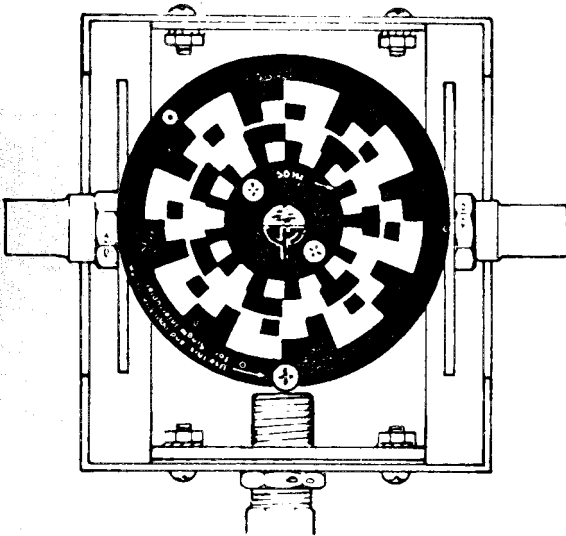

Figure 3-6. Logo at 6:00 O'clock
- (1) Remove interrupter screws from the Tester disc leaving only the one to which the stem of the h points (fig. 3-6).
- (2) Set Strobex MODE switch[ to position E and RPM dial to 090.
- (3) Run Tester at 1800 RPM and illuminate Tester rotor with the Strobex.
- (4) Adjust Strobex RPM dial until the stem of the h appears stopped at 6:00 o'clock.
- (5) Set Strobex RPM dial to 180 ( actual rotor rate) and adjust Strobex RPM dial until the stem of the h appears stopped at 12:00 and 6:00 o'clock.
- (6) Reduce the Strobex, RPM dial setting while observing the h image. Verify that the stem of the h remains at 6:00 o'clock but the 12:00 o'clock stem moves clockwise until about 2:00 or 2:30 o'clock. Further deduction of the Strobex RPM dial setting causes, the image to become very erratic.
- (7) Set Strobex MODE switch to B and RPM dial to 180 (450 rotor RPM times one blade times 0.4, as stated on Strobex rear panel).
- (8) Operate Tester at 900 RPM and illuminate Tester disc with the Strobex. Adjust Strobex RPM dial until stem of h appears stopped at 6:00 o'clock.
- (9) Increase the Strobex RPM dial setting to slightly above 180 and verify that the image starts revolving counterclockwise.
- (10) Set Strobex RPM dial to 360 and adjust until the stem of the h appears stopped at 12:00 and 6:00 o'clock.
- (11) Reduce the Strobex RPM dial setting while observing the h image. Verify that the stem of the h remains at 6:00 o'clock and the 12:00 o'clock stem moves clockwise.